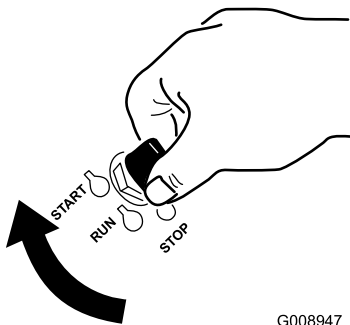

Figure 20
6. Turn the key in the ignition switch to the START position (Figure 20). When the engine starts, release the key.